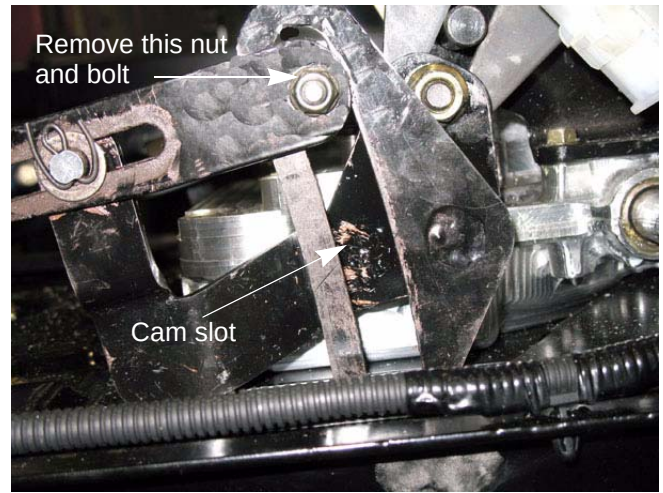

Figure 6.11
3. Disconnect the transmission link from the right side of the gear box only by removing the nut and bolt. See Figure 6.11.